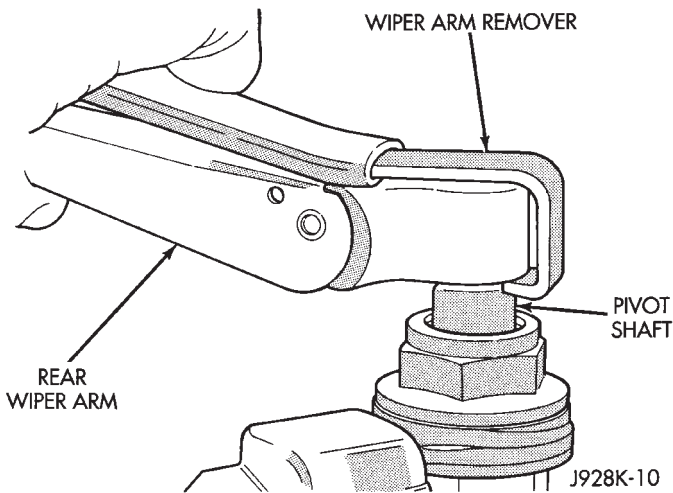

Fig. 11 Removing Liftgate Wiper Arm
(1) Install wiper arm remover, Snap On A192 or equivalent, on wiper arm (Fig. 11). Lift arm and then remove from pivot shaft.